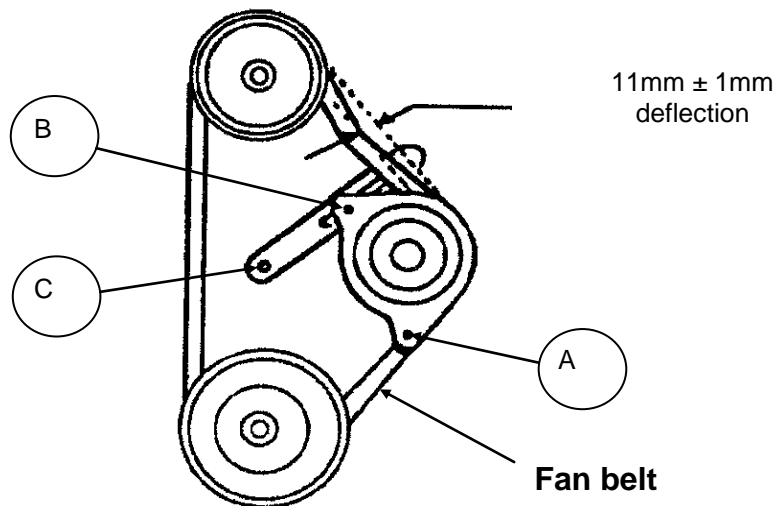

Fig. 15
- Loosen, but do not remove, the fan belt adjusting screw (B) on the front of the generator and screw (C) on the front of the engine (Fig. 15).
- Adjust the fan belt so that the belt can be depressed $11\text{mm} \pm 1\text{mm}$ with the thumb applying pressure at a point midway between the water pump and generator pulley. Refer back to (Fig. 15).